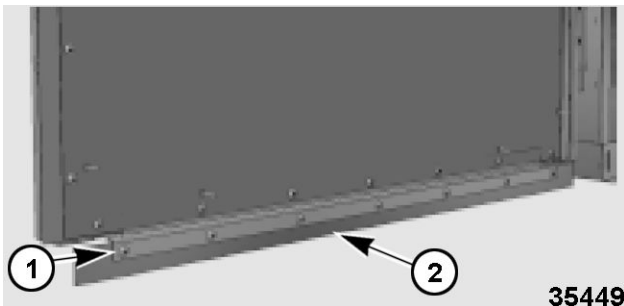

Fig. 59
1. Loosen retaining screws (1, Fig. 59) located on inner door skin, and adjust door sweep (2, Fig. 59) to facility floor as necessary.